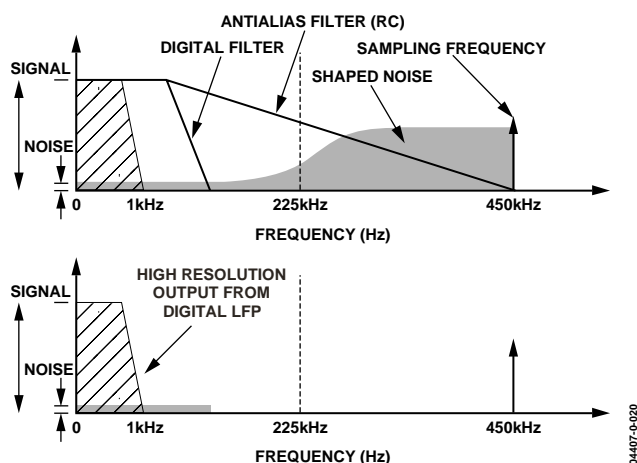
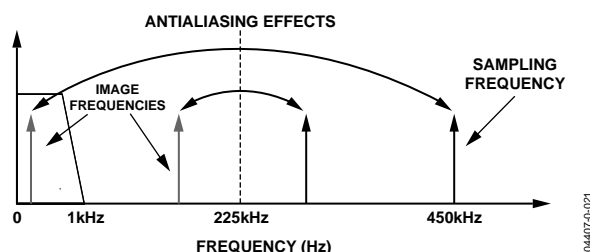

Figure 18. Noise Reduction Due to Oversampling and Noise Shaping in the Analog Modulator
Figure 19. ADC and Signal Processing in Current Channel or Voltage Channel
The Σ - Δ converter uses two techniques to achieve high resolution from what is essentially a 1-bit conversion technique. The first is oversampling, which means that the signal is sampled at a rate (frequency) that is many times higher than the bandwidth of interest. For example, the sampling rate in the ADE7761 is CLKIN (450 kHz) and the band of interest is 40 Hz to 1 kHz. Oversampling has the effect of spreading the quantization noise (noise due to sampling) over a wider bandwidth. With the noise spread more thinly over a wider bandwidth, the quantization noise in the band of interest is lowered (see Figure 18).
However, oversampling alone is not an efficient enough method to improve the signal-to-noise ratio (SNR) in the band of interest. For example, an oversampling ratio of 4 is required just to increase the SNR by only 6 dB (1 bit). To keep the oversampling ratio at a reasonable level, it is possible to shape the quantization noise so that the majority of the noise lies at the higher frequencies. This is what happens in the Σ - Δ modulator; the noise is shaped by the integrator, which has a high-pass type response for the quantization noise. The result is that most of the noise is at the higher frequencies where it can be removed by the digital low-pass filter. This noise shaping is also shown in Figure 18.
Figure 18 also shows an analog low-pass filter (RC) on input to the modulator. This filter is present to prevent aliasing. Aliasing is an artifact of all sampled systems, which means that frequency components in the input signal to the ADC that are higher than half the sampling rate of the ADC appear in the sampled signal frequency below half the sampling rate. Figure 19 illustrates the effect.
In Figure 19, frequency components (arrows shown in black) above half the sampling frequency (also known as the Nyquist frequency), that is, 225 kHz, are imaged or folded back down below 225 kHz (arrows shown in gray). This happens with all ADCs no matter what the architecture. In the example shown, only frequencies near the sampling frequency (450 kHz) move into the band of interest for metering (40 Hz to 1 kHz). This fact allows the use of a very simple low-pass filter to attenuate these frequencies (near 250 kHz) and thereby prevent distortion in the band of interest. A simple RC filter (single pole) with a corner frequency of 10 kHz produces an attenuation of approximately 33 dB at 450 kHz (see Figure 19). This is sufficient to eliminate the effects of aliasing.